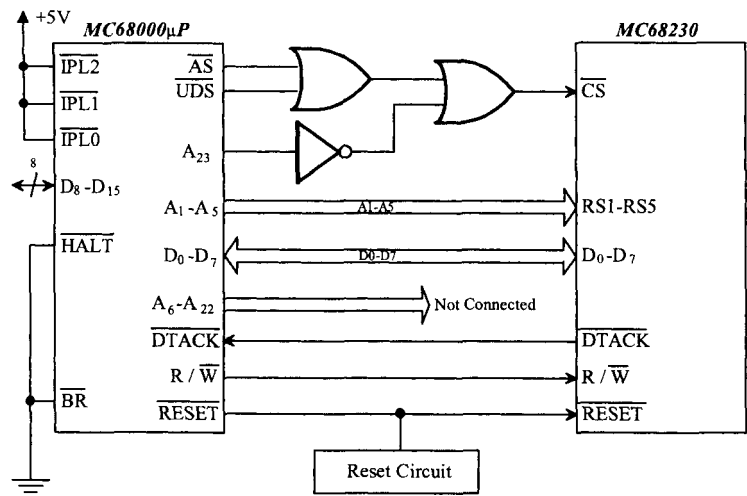

FIGURE P10.40
- 10.40 Will the circuit in Figure P10.40 work? If so, determine the I/O port addresses for PGCR, PADR, PADDR, PBDR, PBDDR, PCDR and PCDDR. If not, comment briefly, modify the circuit, and then determine the port addresses. Use only the pins and the signals shown. Assume all don't cares to be zeros.